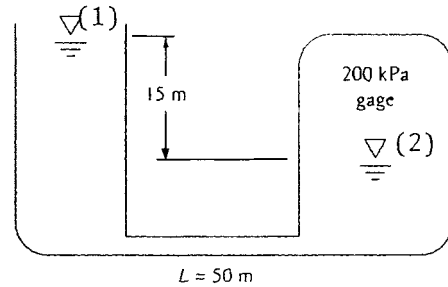

Fig. P6.78
**6.78** In Fig. P6.78 the connecting pipe is commercial steel 6 cm in diameter. Estimate the flow rate, in  $\text{m}^3/\text{h}$ , if the fluid is water at  $20^\circ\text{C}$ . Which way is the flow?